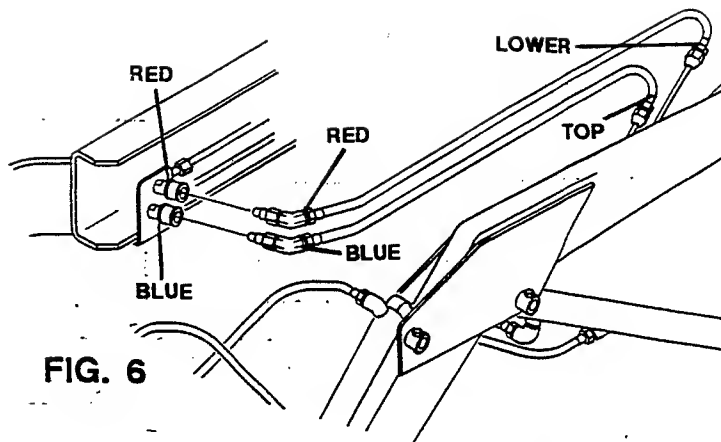

FIG. 6
- Connect the hydraulic hose with blue washer on the top feedline on the L. H. side of the mainframe to the bottom quick coupler on the L.H. side of the tractor. See Fig. 6.
- Connect the lower hydraulic hose with red washer to the top quick coupler. See Fig. 6.